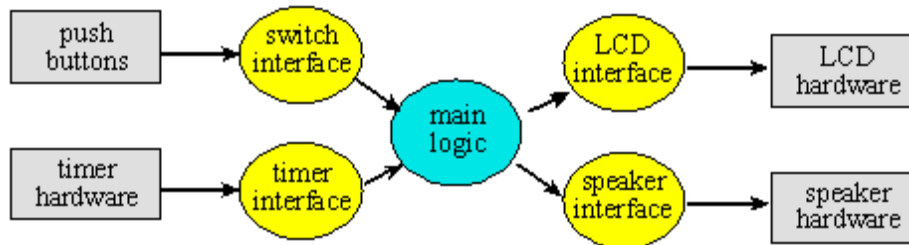

Figure 3.1. Data flows from the timer and the switches to the LCD and speaker.
4. Write one main program that implements the digital alarm clock. Figure 3.1 shows the data flow graph of the alarm clock.
- If you organized the system different than Figure 3.1 and 3.2, then draw its data flow and call graphs